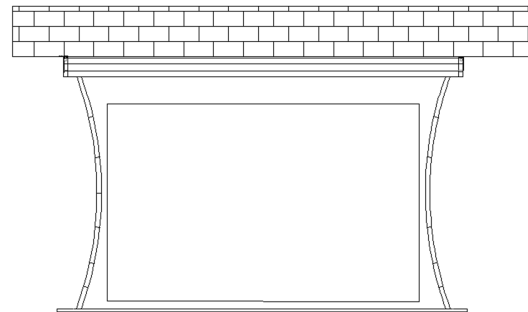

Fig.6
3. After hanging the screen on to the affixed screws, use the provided bubble leveler to ensure for a levelled installation (see Fig. 6).